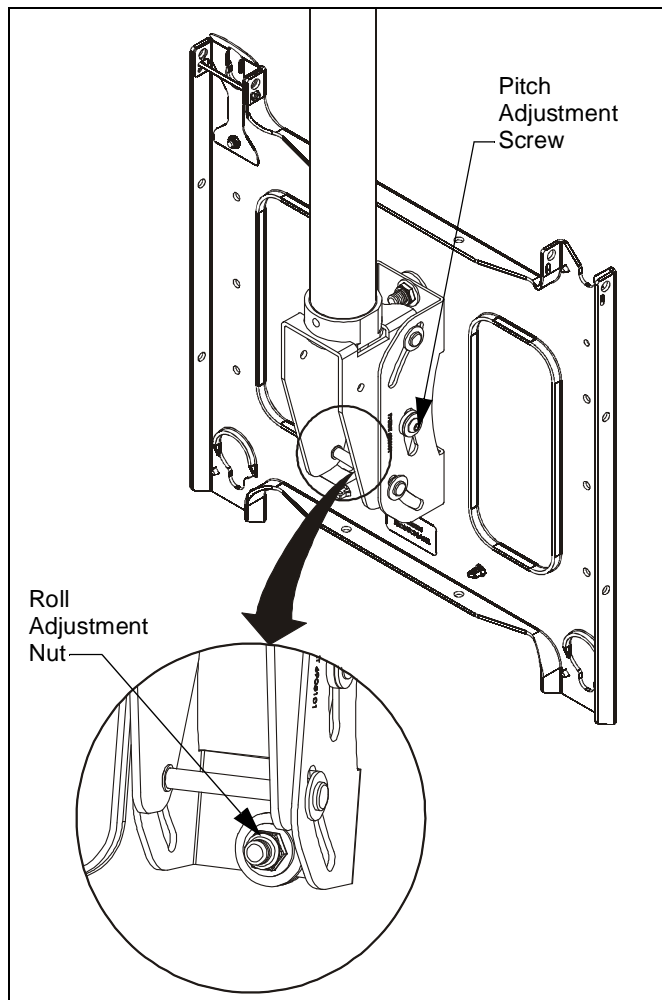

Figure 6
1. Loosen the Nylock roll adjustment nut on back of mounting plate. (See Figure 6)
2. Tighten the pitch adjustment screw to hold mount in position. (See Figure 6)